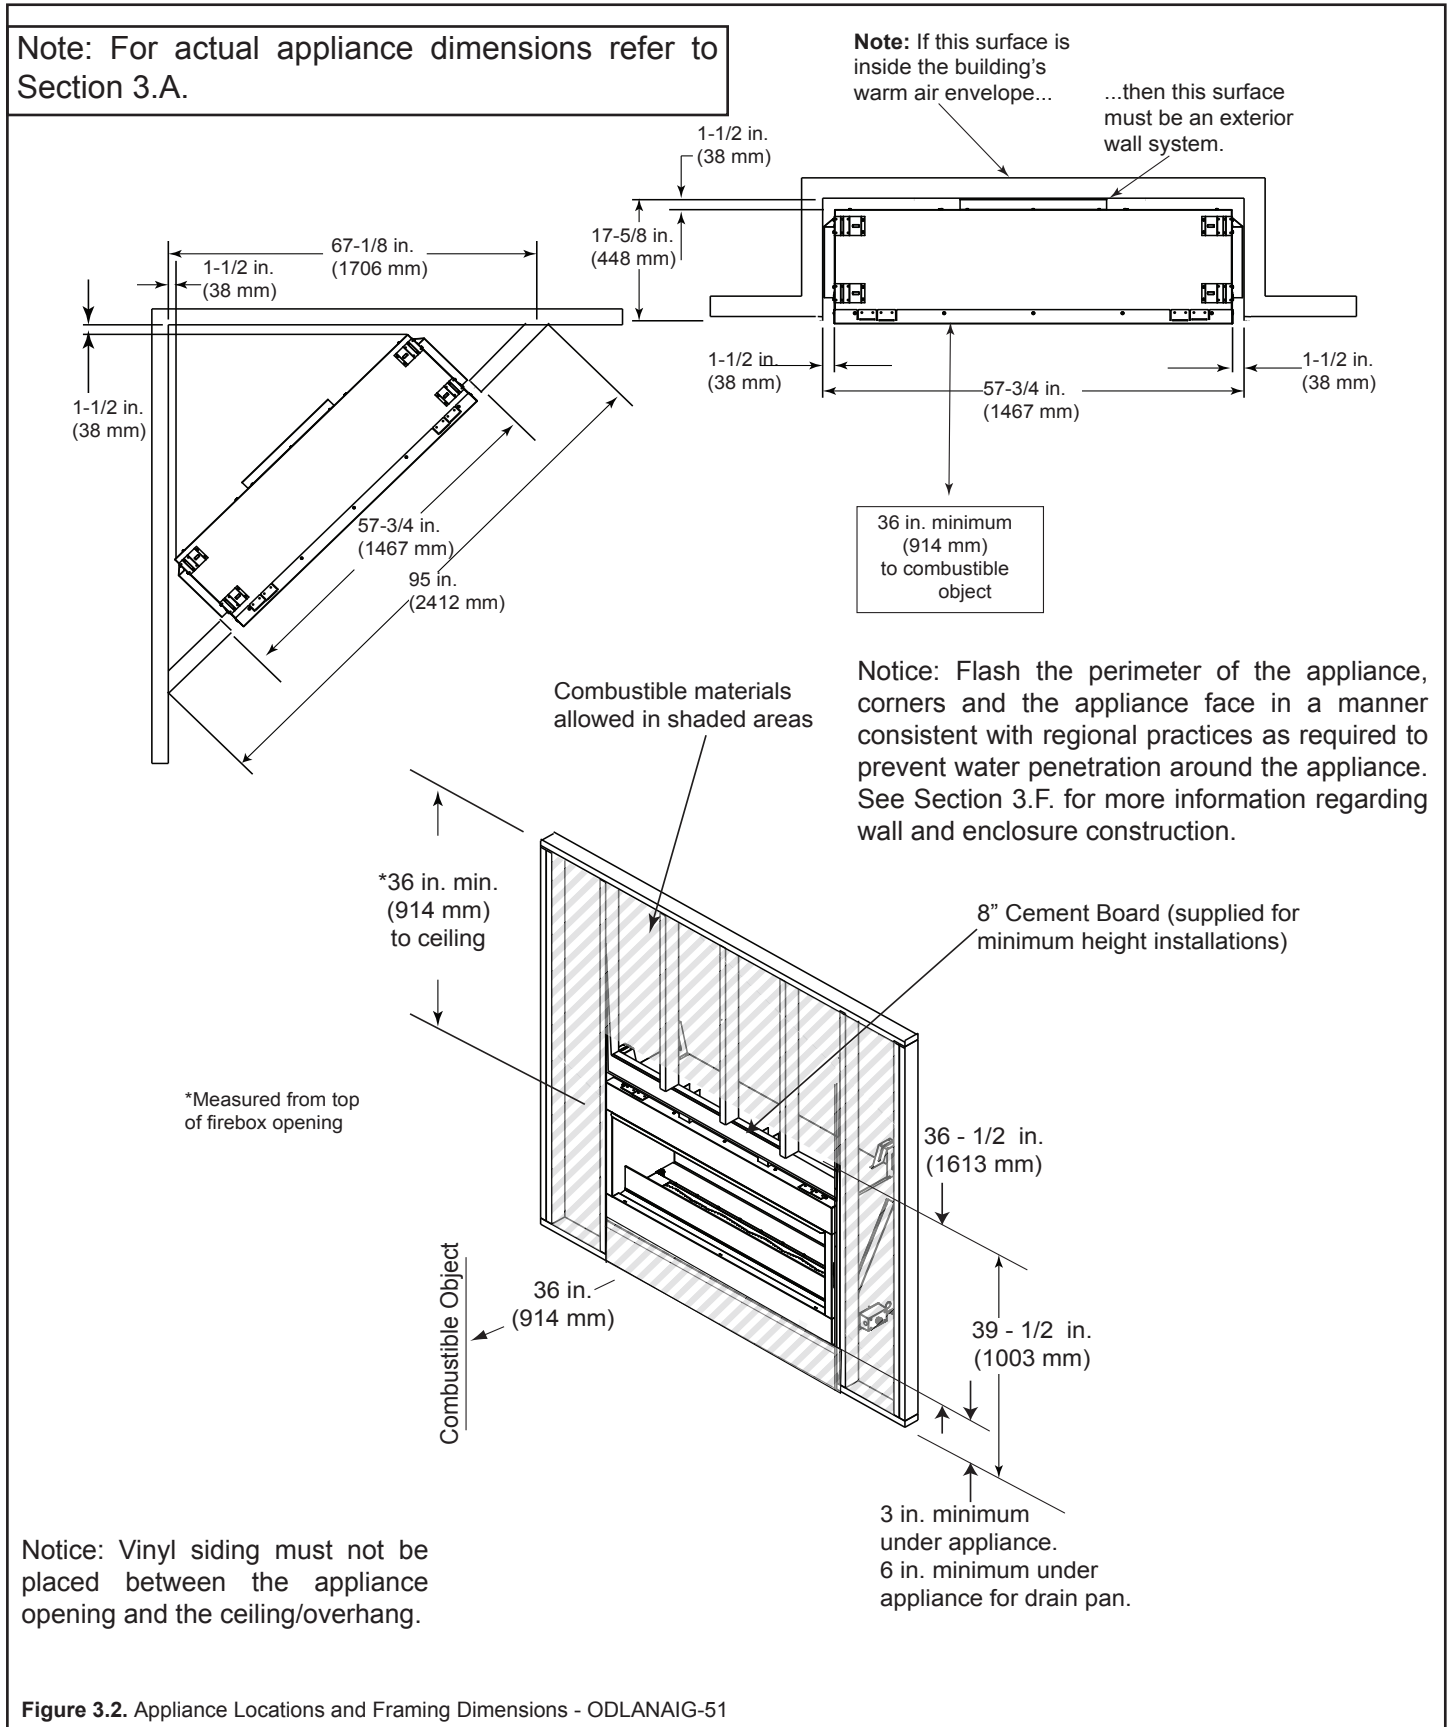

Figure 3.2. Appliance Locations and Framing Dimensions - ODLANAIG-51
Dimensions are actual appliance dimensions. Use for reference only. For framing dimensions and clearances refer to Figure 3.2 and Figure 3.4.
When selecting a location for the appliance, it is important to consider the required clearances to walls (see Figures 3.2, 3.3, and 3.4.)
- See Figure 3.2, 3.3 and 3.4 for required clearances.
- See framing measurements in Figure 3.2 and 3.4.
- You must maintain 1 ½ in. air space at the back and sides. See Figure 3.2
- See Section 3.F. and Figures 3.2. for more information regarding wall and enclosure construction required to prevent moisture penetration into the structure. The appliance will shed moderate amounts of water but is not waterproof.